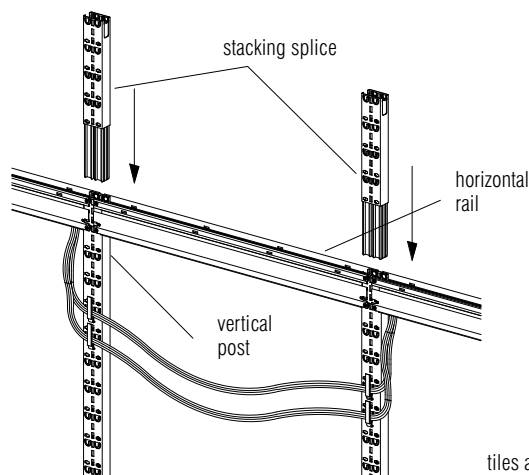

Figure 85
2. Position the stacking splice above the top of the vertical post and tap into place. Do not damage top of stacking splice during installation. Continue adding stacking sections as required. **Figure 85.**